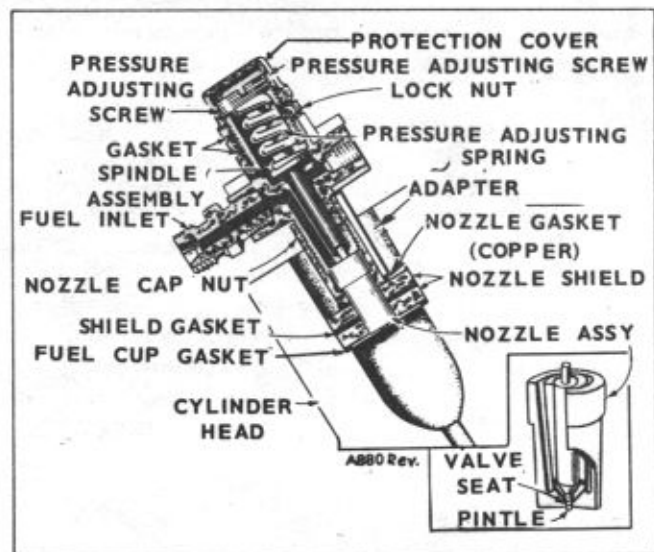

Figure 26. Nozzle Assembly
**Adjustment:** To adjust the opening pressure, remove the nozzle from the engine. Remove the cap nut over the adjusting screw of the nozzle and install the nozzle on a static fuel nozzle testing fixture (it may be purchased from *Onan*.) Following the tester instructions, adjust the opening pressure to 1,750 psi by turning the adjusting screw (Fig. 26). Turning it clockwise increases the pressure and turning counterclockwise decreases it. Do not try to adjust the pressure without a testing fixture.